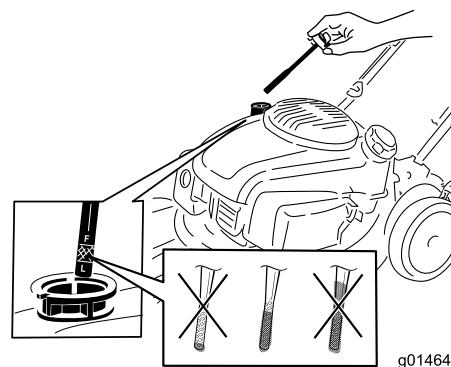

Figure 16
2. Remove the dipstick (Figure 16).
4. **Slowly** pour oil into the oil fill tube until the oil level reaches the Full line on the dipstick (Figure 16). **Do not overfill.** (Max. fill: 22 oz. (0.65 l), type: 10W-30 or SAE 30 detergent oil with an API service classification of SJ or higher.)
**Note:** Each time you check the oil level, remove the dipstick and wipe it clean, insert it into the oil filler neck (but **do not** screw it in), then remove it again and check the level (Figure 16).